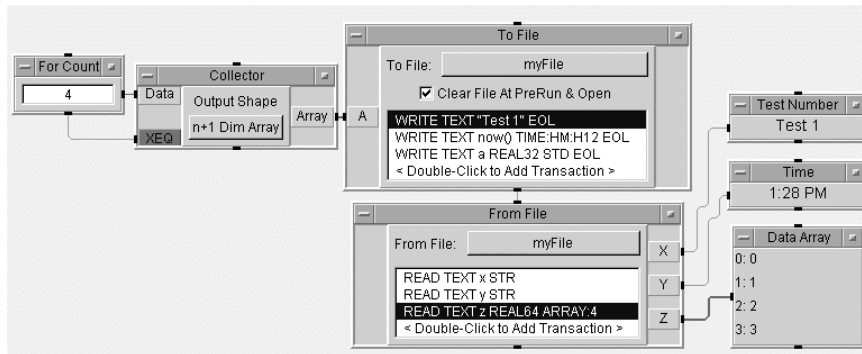

Figure 6.9. Retrieving and displaying data using the FromFile object
43. Run the program. It should look like Figure 6.9.